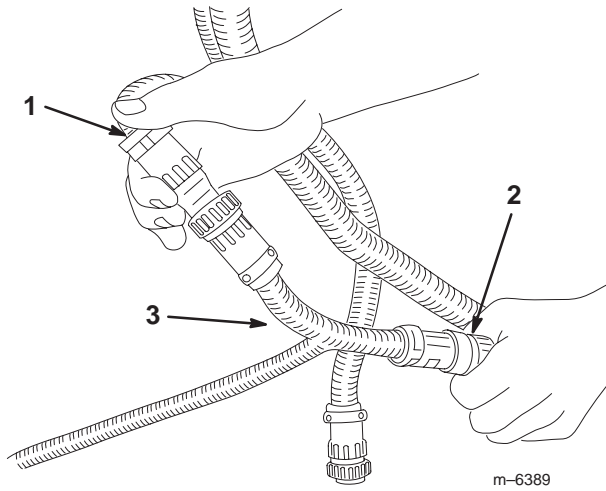

Figure 20
6. Disconnect the connectors under the dash between the manual control box and the spray harness (Fig. 20).
7. Connect the T-end of the new rear control box harness between the manual control box harness and the spray harness (Fig. 20 and 21).